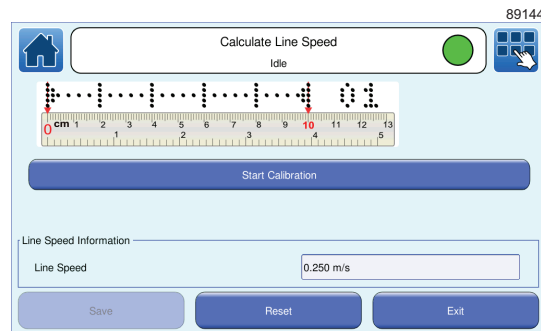

Figure 37. Calculate Line Speed: Start Calibration screen
- 6 Measure the length of the printed calibration message. This value is the distance between the outer edges of the end arrows, shown by the red dots in Figure 37 on page 46. For reference, when the length of the calibration message is 100 mm (plus or minus 1 mm), the line speed is accurate.